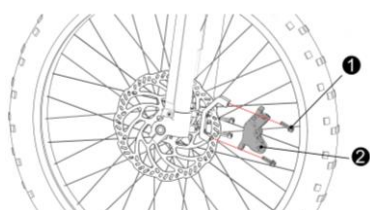

Fig 29
10.5 Dismount brake caliper (Fig 29)